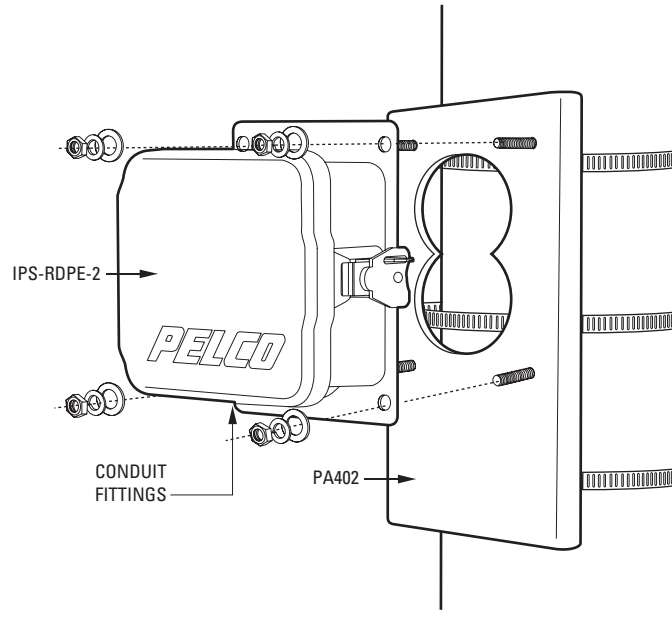

Figure 2. Mounting to Pole with PA402
3. Attach the IPS-RDPE-2 to the PA402, and secure with the hardware supplied with the mount adapter. Refer to Figure 2.